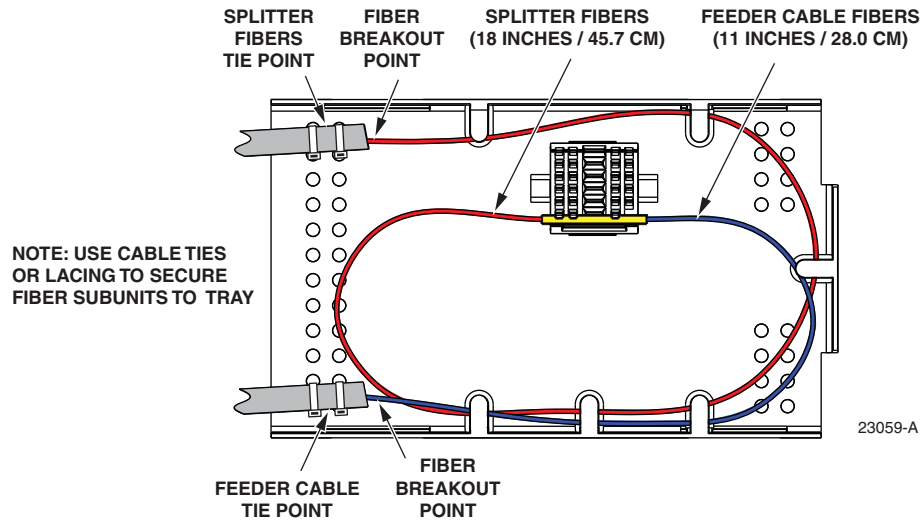

Figure 41. Stranded Fiber Splice Tray - Feeder Cable Splicing
10. Splice the feeder cable fibers to the appropriate splitter fibers as specified by local policies and procedures. Adjust and route the fibers within the splice tray as shown in Figure 41. Refer to Table 4 (shown previously) for the splitter fiber designations.